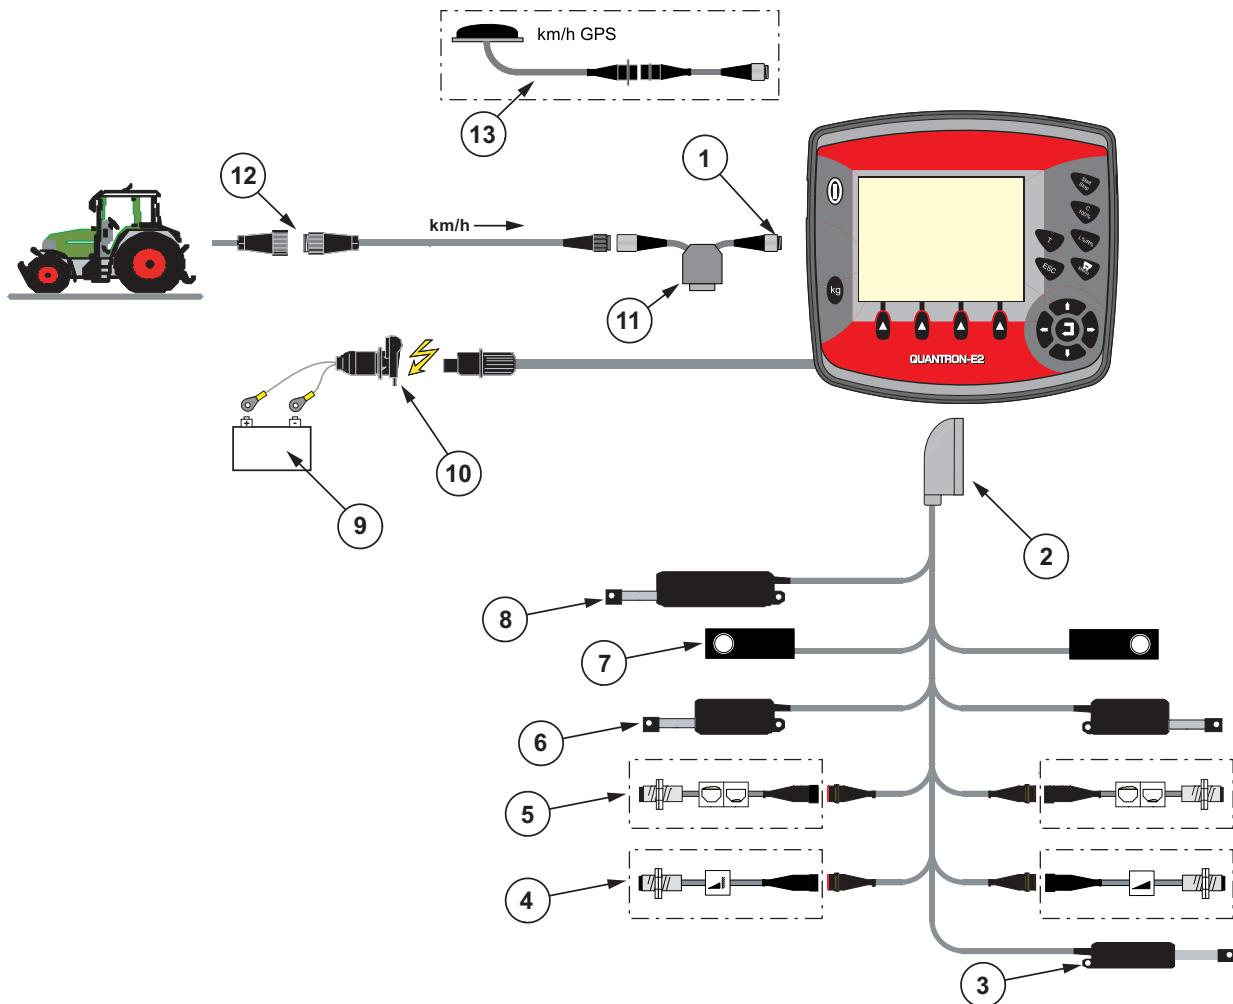
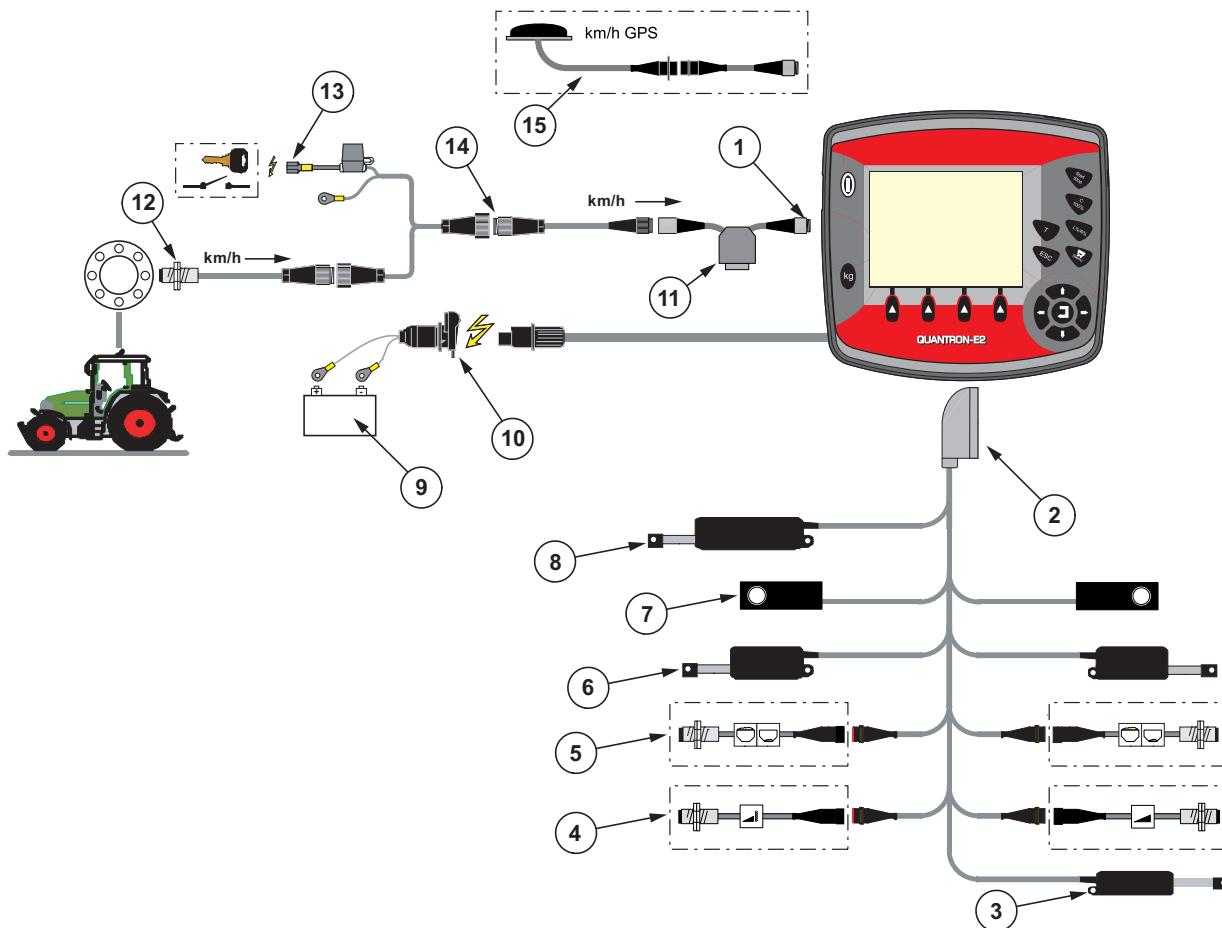

Figure 3.3: Schematic connection diagram QUANTRON-E2
Figure 3.5: Schematic connection diagram QUANTRON-E2
The 7-pin socket for the tractor and the forward speed sensor can be obtained as an expansion kit (option), see figure 3.3 to figure 3.5.
- Connect the control unit to the 7-pin socket or to the forward speed sensor (depending on the equipment, see figure 3.3 to figure 3.5).